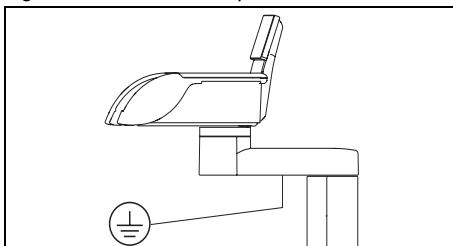

Fig. 3-9 Assistant element
- assistant element, screw below the transverse arm (Figure 3-9)